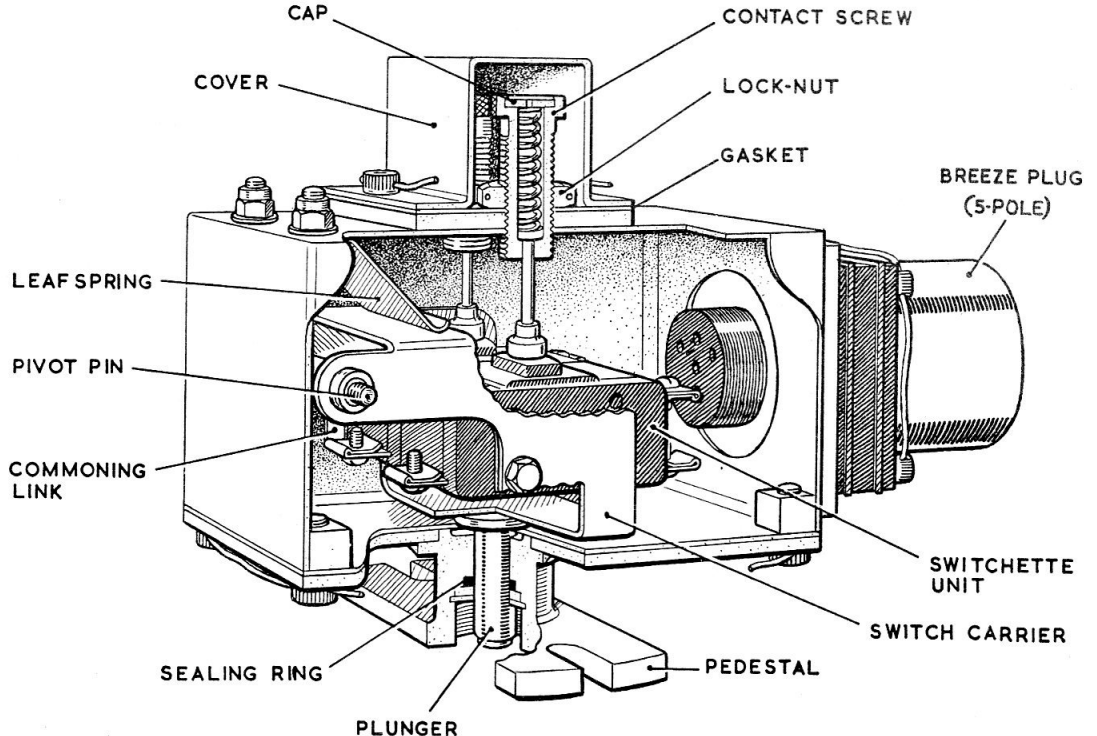

Fig. 1. Double switchbox assembly, Part No. 8028
3. Each double switchbox assembly (*fig. 1*) consists of two switchette units which are mounted side by side on a switch carrier housed in an aluminium case. The switch carrier, which is pivoted on a pivot pin, is tensioned by a leaf spring secured to the top of the case by two bolts. An insulating piece of Bakelized paper is fitted between one of the switchette units and the switch carrier.